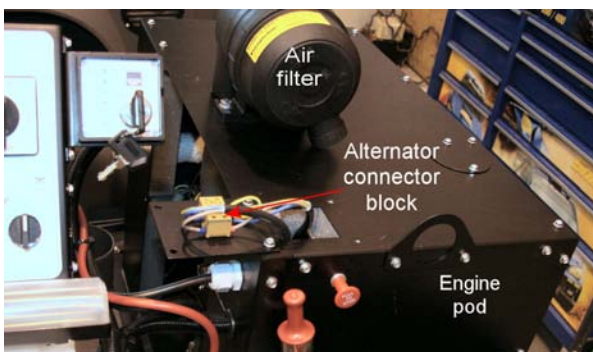

Fig 5-12 Alternator connector block
5. Disconnect the lead to the alternator from the terminal block attached to the underside of the plate on the top corner of the engine pod (Fig 5-12) and extract the lead from the engine pod.